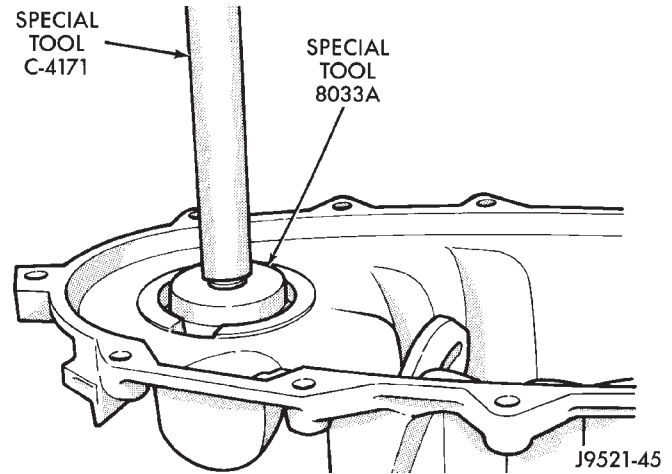

Fig. 49 Front Output Shaft Front Bearing Installation
(2) Install new front output shaft front bearing with Tool Handle C-4171 and Installer 8033A with the tapered cone upward (Fig. 49).